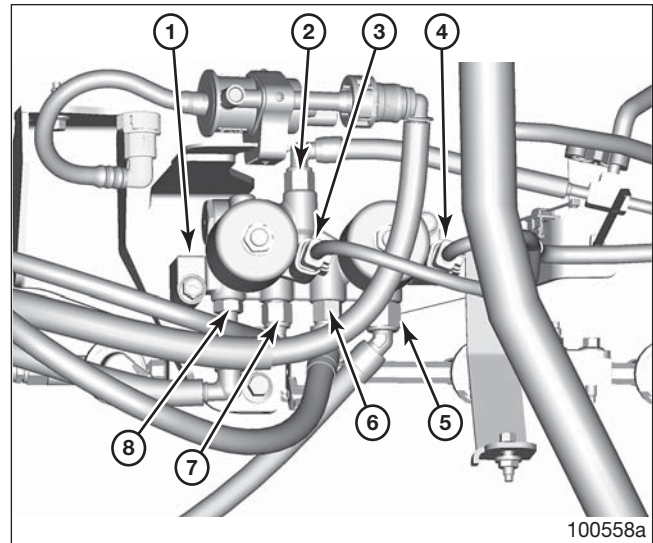

Figure 90 – FRPCM Connections
3. Disconnect the supply solenoid and bleed solenoid electrical connectors from the FRPCM. Figure 90.
5. Install the fuel return, engine supply and fuel supply lines to the FRPCM. Ensure the lines are connected to the correct ports shown in Figure 90.
9. Connect the supply solenoid and bleed solenoid electrical connectors to the FRPCM. Ensure the connectors are installed in the correct positions shown in Figure 90.